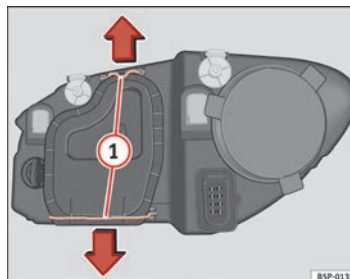

Fig. 179 Dipped beam headlights
- Move the loops ⇒ Fig. 179 (1) in the direction of the arrow and remove the cover. ►